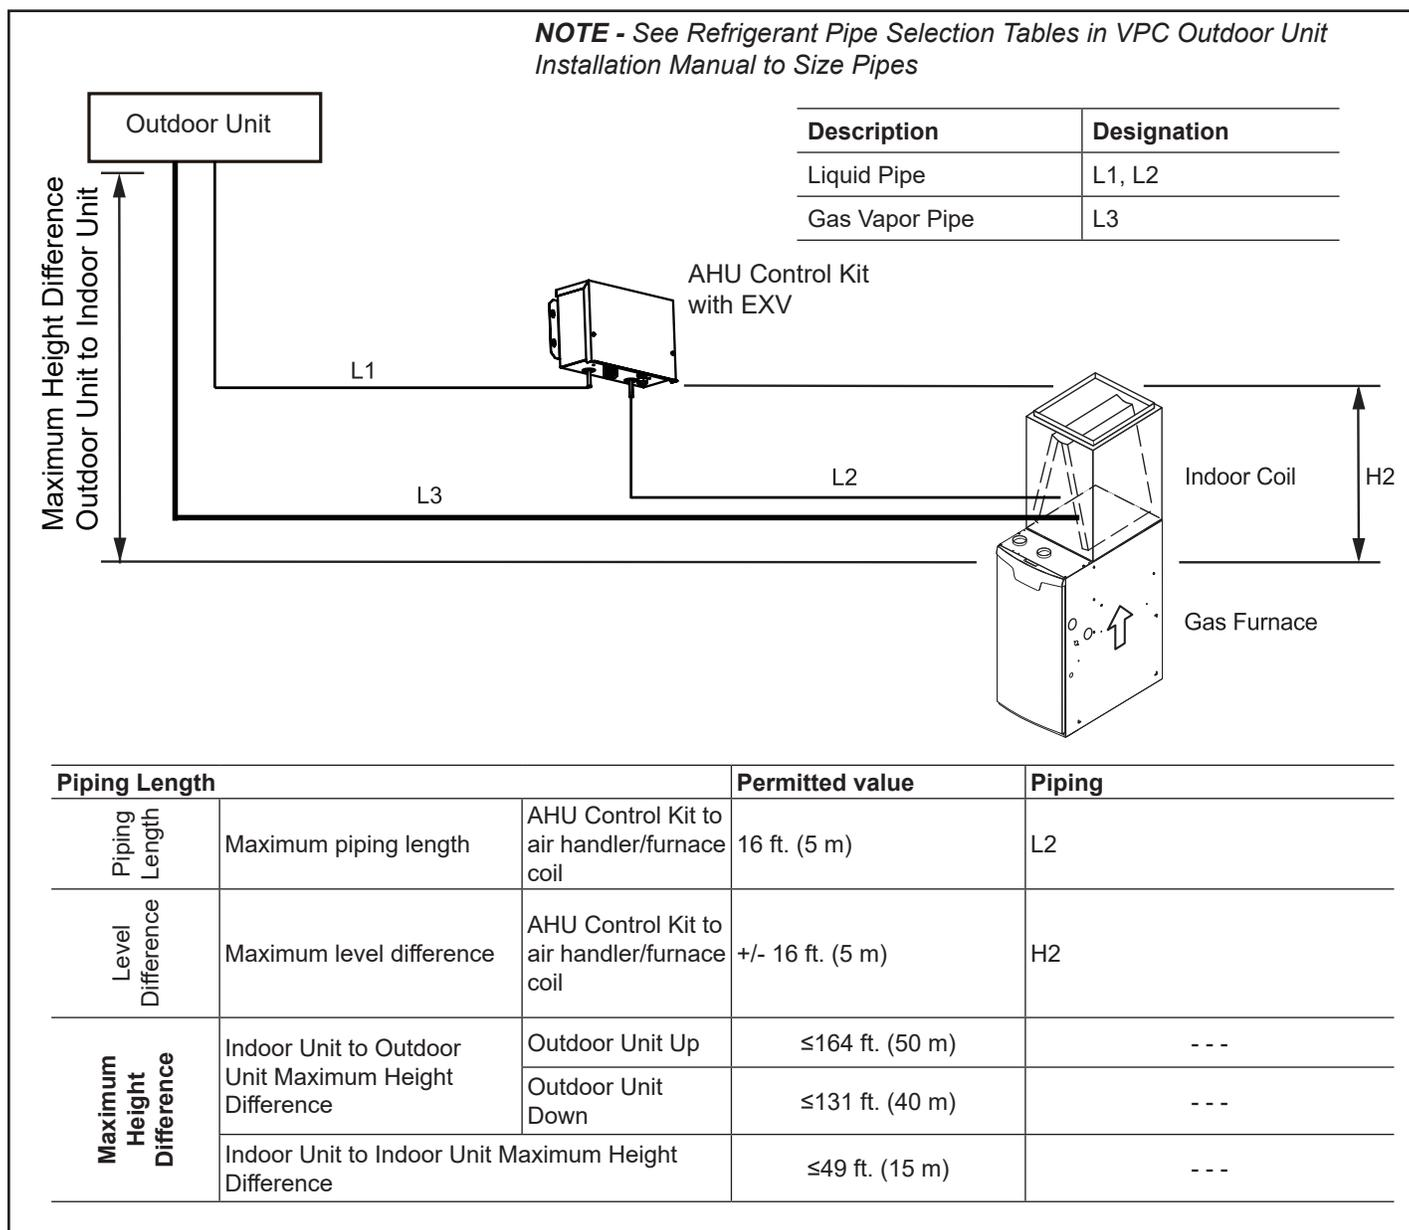

Figure 6. Typical Refrigerant Piping Diagram
1. Remove the front cover from the box by removing two screws and plastic washers. See Figure 6.